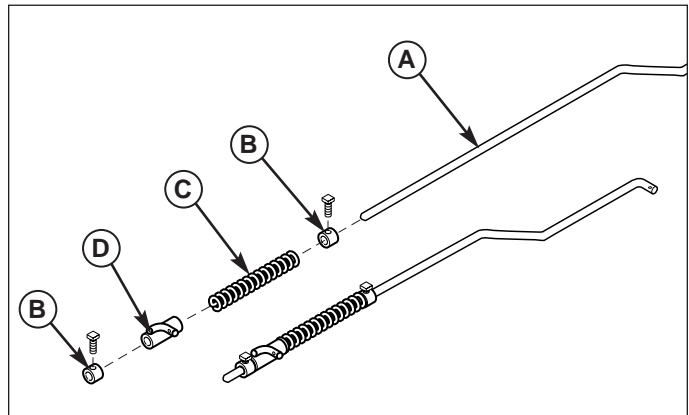

Figure 3. Assemble Lift Rod
1. Install the set collars (B, Figure 3), spring (C), and rod guide (D) on the lift rod (A) as shown. Final adjustment of the set collars will be made after the hitch and attachment are installed.